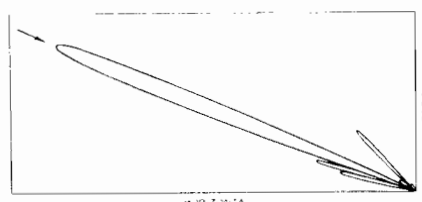

Fig. 3. Receiving characteristics of the experimental MUSA.
Here it is noted that only the odd harmonic terms appear as would be expected if positive and negative portions of the wave are identical. Fig. 3-A shows the various terms of (2) plotted against frequency. The
quency components are included, the perfect rectangular wave is obtained. If an amplifier is to amplify this steady-state rectangular wave, its ability to reproduce the perfectly square top is dependent upon its ability to amplify the high-frequency components of the wave. Any finite upper limit will prevent perfect reproduction of the wave shape. If an amplifier were capable of amplifying only the first 15 terms, the perfectly flat-topped original of Fig. 2-B would be distorted to that of Fig. 3-B.